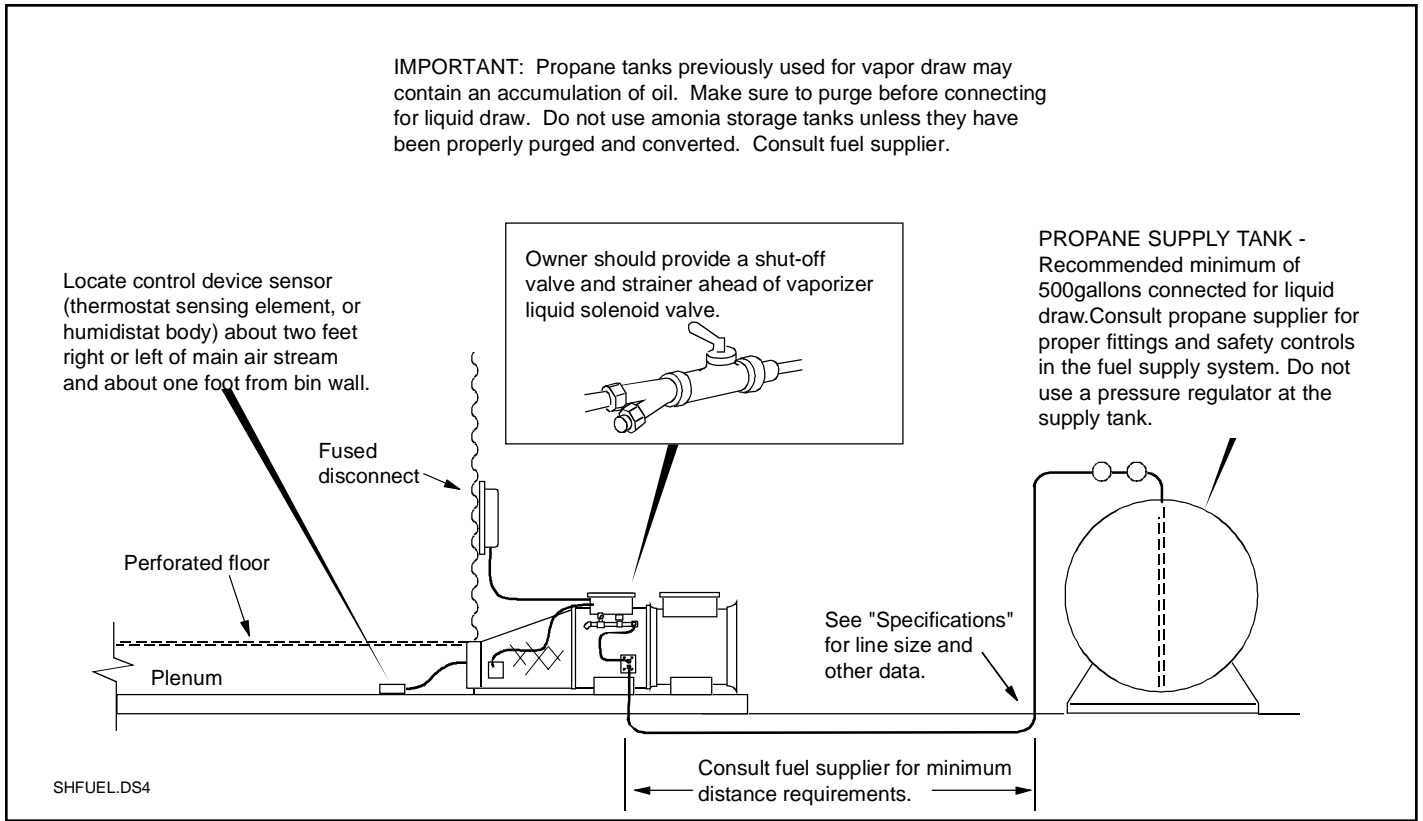

Fig. 1 Suggested installation for AH heaters with vaporizer - Liquid Propane fuel supply
1. Refer to Figures 1 and 2 for a view of a suggested installation showing position of equipment and layout of system. Make sure to observe the following:
A suggested fuel connection arrangement is shown in Fig. 1. See Table 2, Specifications, for pipe sizes, fuel flow rates, and operating pressures.